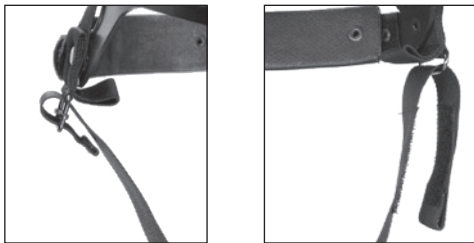

FIGURE 6-2. REMOVAL AND INSTALLATION OF CHINSTRAP
1. Remove the chinstrap (Figure 6-2) by unsnapping the Velcro tape from the left side of the headband. Unbuckle the chinstraps from narrow strap assembly.
2. Replace the chinstrap by using the Velcro tape on the left side of the headband. Lace the right straps into their respective sliding bar buckles on the right side of the headband for correct lacing (Figure 6-2).